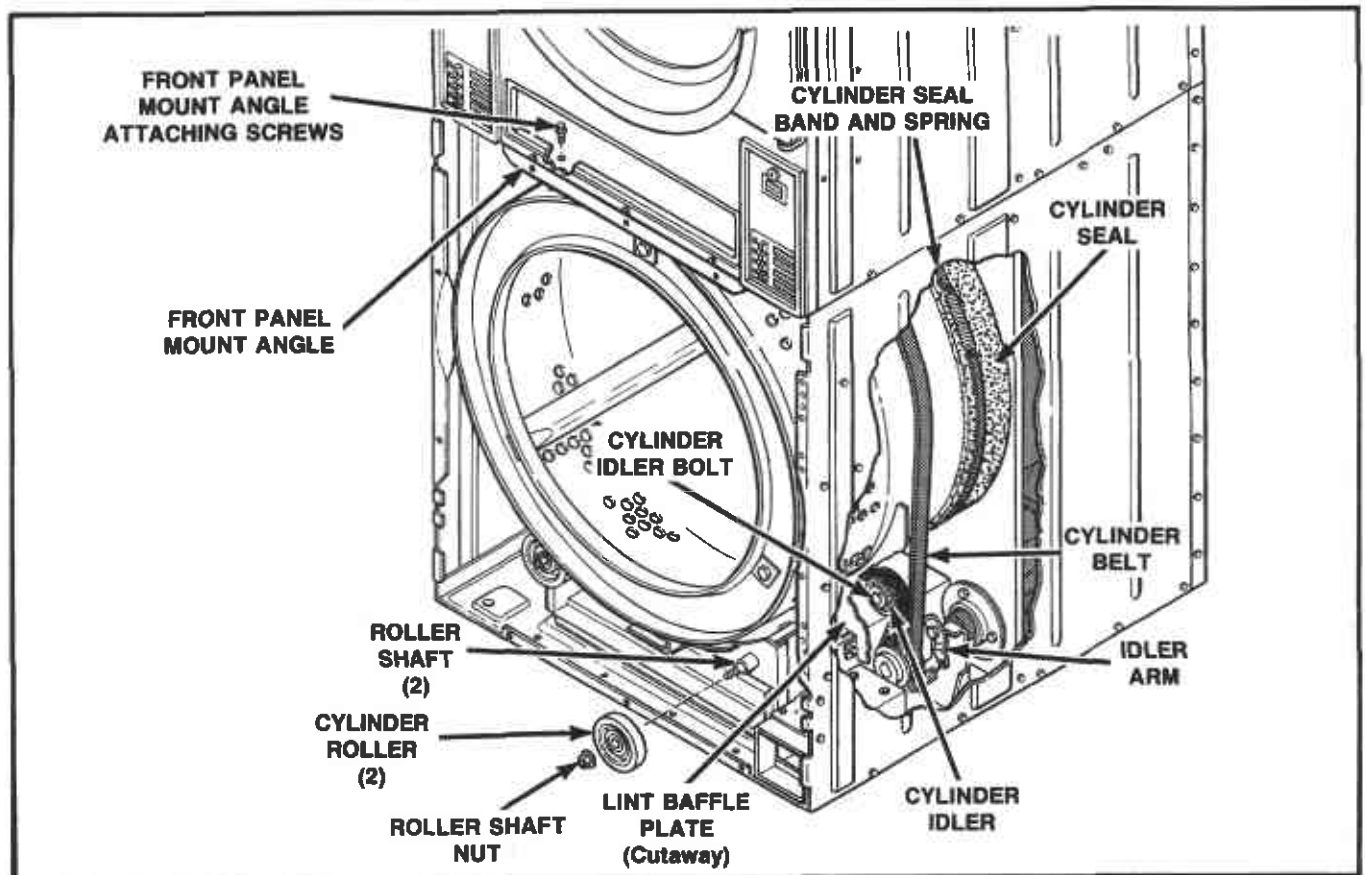

Figure 15
## 14. CYLINDER ROLLERS (Figure 15)
## 15. CYLINDER BELT (Figure 15)
#### 16. CYLINDER IDLER (Figure 15)
- e. Remove screws attaching lint baffle plate to cabinet. Remove lint baffle plate, *Figure 15*.
Unlock and remove top lint drawer. Remove screws attaching front panel mount angle to top unit base and remove front panel mount angle from bottom unit, *Figure 15*.